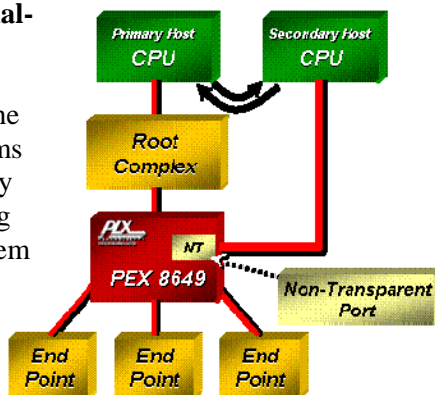

Figure 3. Non-Transparent Port
In Single-Host mode, the PEX 8649 supports a **Non-Transparent (NT) Port**, which enables the implementation of **dual-host systems** for redundancy and host failover capability. The NT port allows systems to isolate host memory domains by presenting the processor subsystem as an endpoint rather than another memory system. Base address registers are used to translate addresses; doorbell registers are used to send interrupts between the address domains; and scratchpad registers (accessible by both CPUs) allow inter-processor communication (see Figure 3).